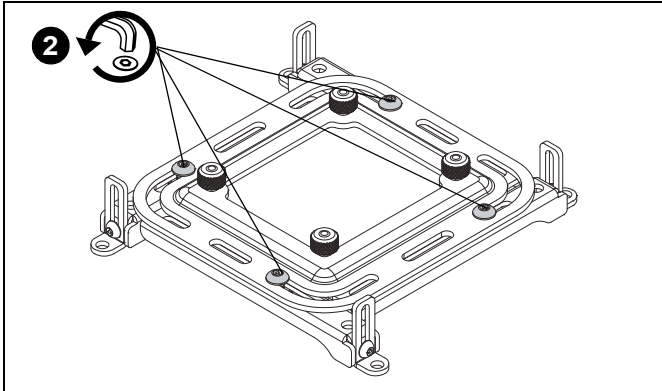

Figure 12
- Loosen, but do NOT remove, the screws holding the legs to the universal interface. (See Figure 12)